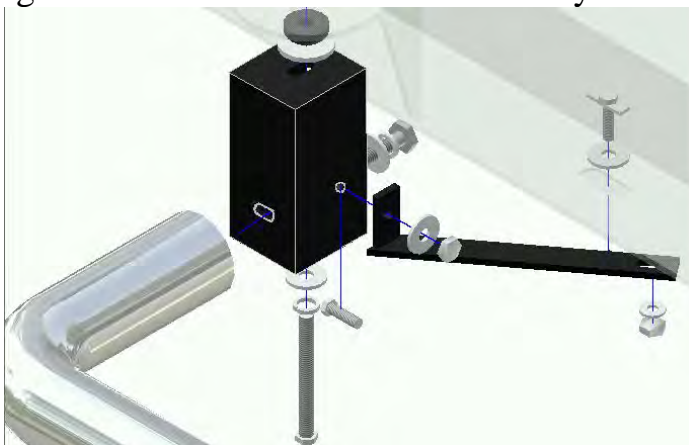

Figure 1.5 – 1500/2500/3500 Front Mount Assembly
5. Attach Front Brace Bracket to side of Front Mount Bracket using (1) M10X40mm bolt, (2) M10 flat washers, and (1) M10 hex nut ,(1) lock washer (see Figure 1.5). Place (1) 3/8" x 1 1/2" bolt with welded strap and (1) M12 flat washer through cut out in frame rail. Line up slot on the long arm of the Brace Bracket with this bolt and secure using (1) M10 flat washer and (1) M10 lock nut,(1) lock washer. Hand tighten.
6. Attach Side Tube to Front and Rear Brackets using (1) M12 – 1.75 x 60mm HEX HEAD BOLT , (1) M12 split lock washer and (1) M12 flat washer for each bracket, and hand tighten. Torque M12 bolts first to 65 ft-lbs and then tighten all remaining fasteners to complete the driver-side assembly.